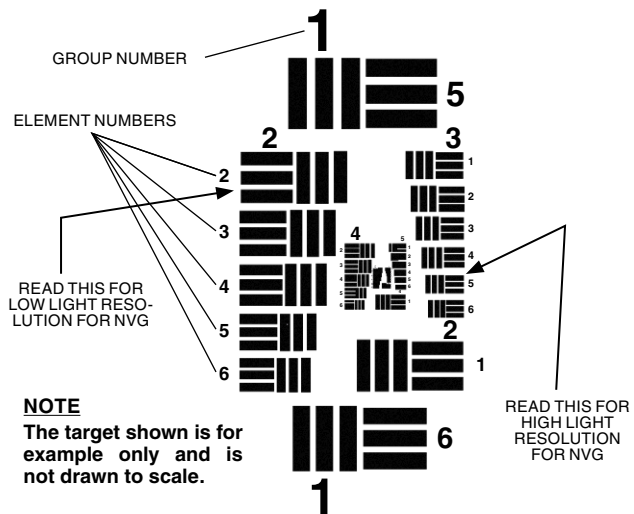

FIGURE 2.2. TS-4348/UV TEST SET PATTERN
- (1) Place the HIGH/LOW switch on the test set to the LOW position.
- (2) Turn off the room light and let your eyes adjust to the dark.
- (3) Turn on the test set by setting the “OFF” switch to the “ON” position.
- (4) Turn on the goggles and insert it into the test port on the test set.
- (5) Look through the goggles and view the projected pattern (see Figure 2.2.). If necessary, focus the eyepiece lens and then the objective lens to obtain the sharpest image.
- (6) The NVG goggles must be able to resolve Group 2, Element 2, under low light conditions to pass the test. If the NVG does not pass the test, return it to maintenance for repair. The operator must document resolution failures on the maintenance record.
- (7) Flip the HIGH/LOW switch to the HIGH position.
- (8) Again, look through the goggles and view the projected pattern (see Figure 2.2.). If necessary, refocus the objective lens and then the eyepiece lens to obtain the sharpest image.
- (9) The NVG must be able to resolve Group 3, Element 5, under high light conditions to pass the test. If the goggles does not pass the test, send it to a higher level of maintenance for repair.